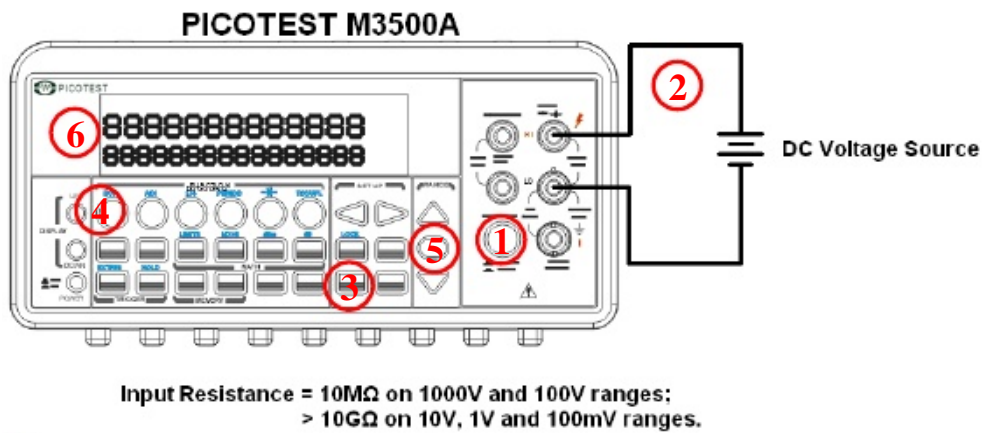
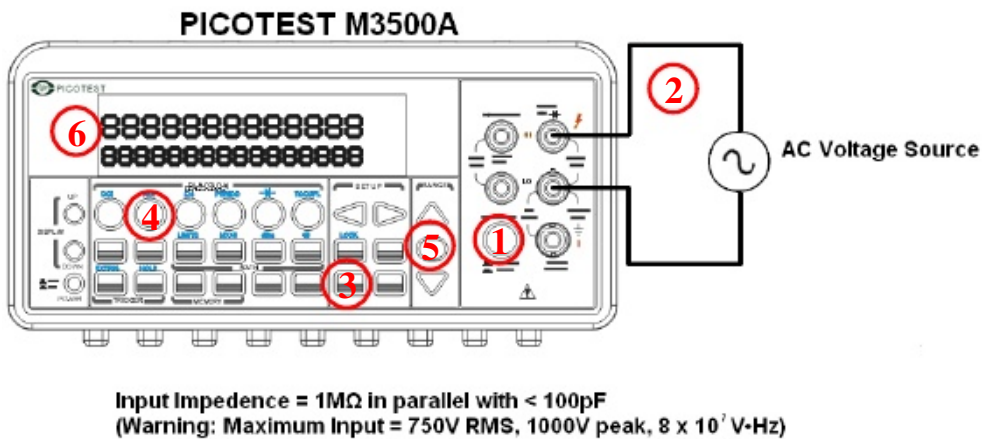
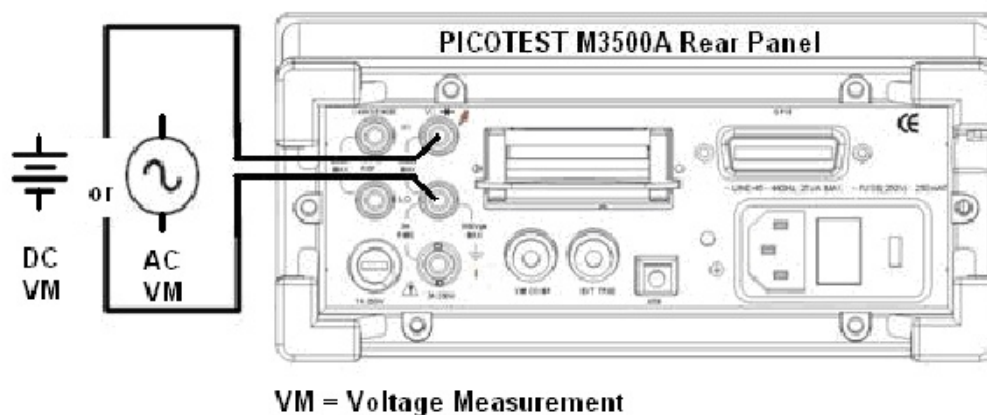

Figure 3-1
Figure 3-2
Figure 3-3
The ranges for DC voltage measurements in M3500A are 100mV, 1V, 10V, 100V and 1000V. For AC voltage measurements, the ranges are 100mV to 750V AC-Coupled TRMS, or 1000V peak. **Figures 3-1** and **3-2** show the locations of the buttons needed and message display for voltage measurement. **Figure 3-3** shows the location of the input terminals on the rear panel.
- ① Selects input signal connections on front or rear panel.
- ② Connect the test leads to the terminals as shown in **Figure 3-1**(DC) or **Figure 3-2** (AC).
- ③ Set RESOLUTION of DCV (Refer to 4.1.3), BAND WIDTH of ACV (Refer to 4.1.2.1) or skip this step if default is to be used.
- ④ Press DCV or ACV button for DC or AC voltage measuring.
- ⑤ Select the auto-range function by pressing AUTO button on the front panel or use \triangle ∇ buttons to select desired range.
- ⑥ Connect test leads to your source signal and observe the reading shown on the display. If the input signal is beyond the allowed range, an overflow message "OVLD" will be displayed.
※ Note: The rear panel terminals can also be used via the same procedures as the front panel terminals. (Refer to Figure 3.3)
- ② Connect the test leads to the terminals as shown in **Figure 3-2**.
- ③ Set RESOLUTION (Refer to 4.1.1) and INPUT JACK. Or skip this step if default is to be used.
- ④ Press FREQ button for frequency measurement or SHIFT + FREQ buttons for period measurement.
- ⑤ Select the auto-range function by pressing AUTO button on the front panel or use Δ and ∇ buttons to select the desired range.
※ **Note:** The rear terminal panel also can be used via the same procedures as the front panel. (Please refer to **Figure 3-3**)
- ① Connect the test leads to the terminals as shown in **Figure 3-2**.
- ② Set REConnect the input signal as the following figure.
- ③ Set threshold resistance via pressing CONFIG + CONT buttons. (Or skip this step if default resistance is to be used) When ready, press ENTER button.
- ④ Press CONT button.
- ⑤ The measured value will be shown on the display automatically. Meter “beeps” when measured resistance value is lower than threshold value.